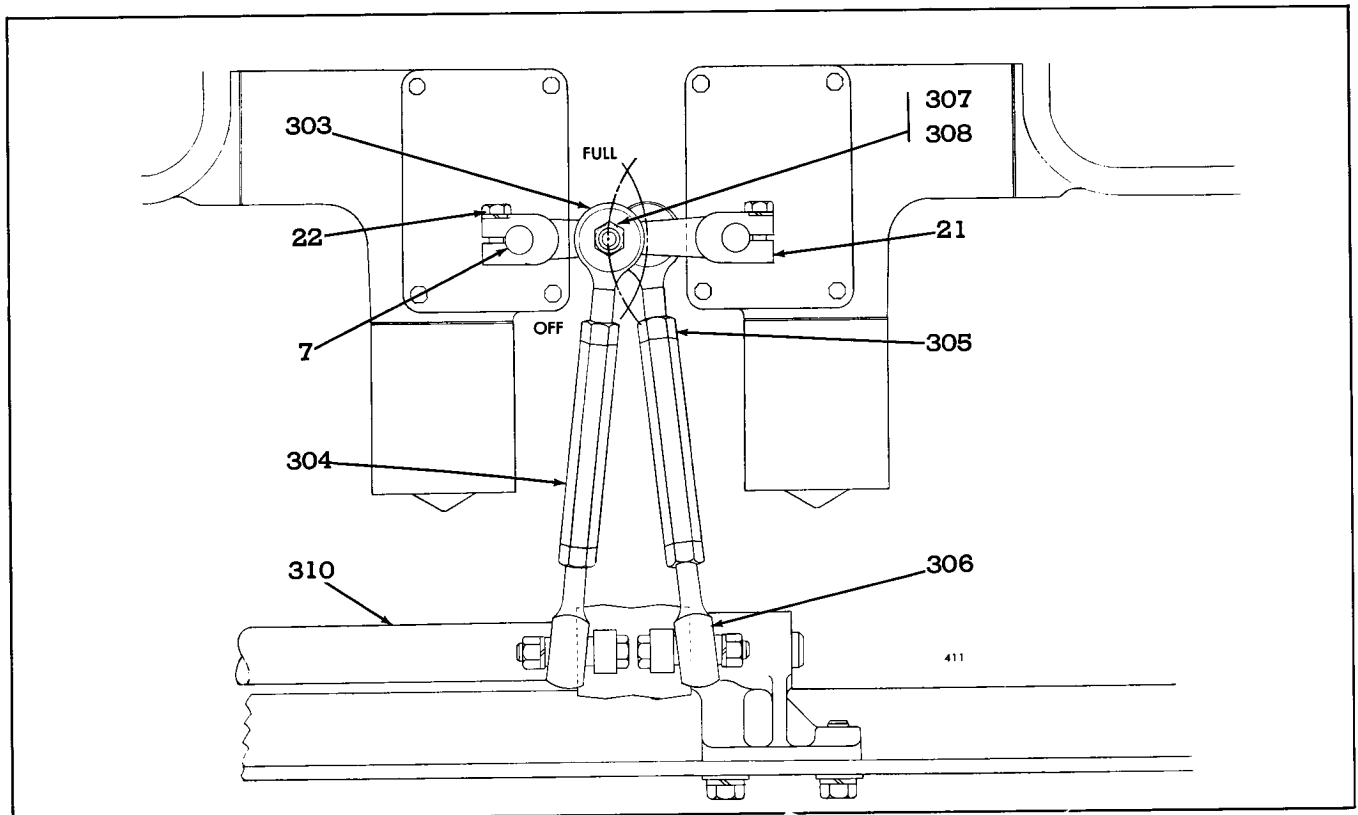

Fig. 1 - Throttle Control Linkage Diagram (Side-by-Side Unit)
Refer to Figs. 1 and 2 and disconnect rod end bearings (303) at each governor control lever (21) by
With engine stopped and with throttle linkage mechanism well lubricated and free of any bind, refer to Figs. 1 and 2 and perform the following adjustments on both engines: